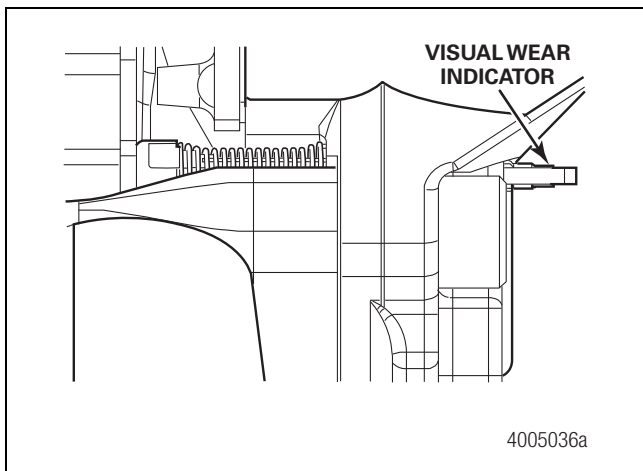

Figure 3.2
- A visual wear indicator (VWI), Figure 3.2.
The visual wear indicator alerts you as to when the braking system needs to be inspected for wear on the pads and rotor. Figure 3.2.